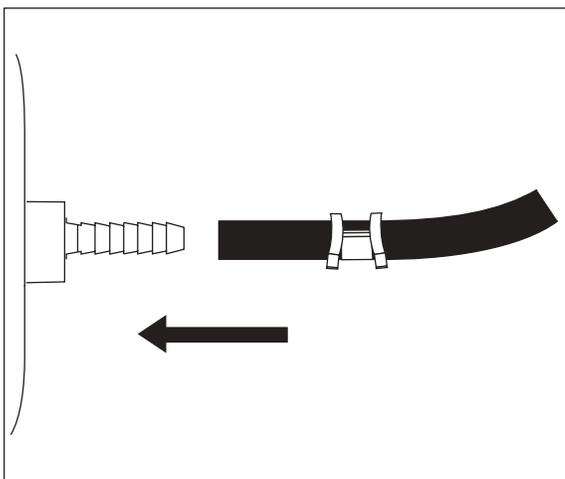

Figure 4
- Push the air line onto the stem, covering all the barbs. With pliers slide the air line clamp upward until it fully covers the barbed section (Figure 4).
- d. Slide air line clamp onto the cut air line. Push the air line onto the stem, covering all the barbed section. With pliers slide the air line clamp forward until it fully covers barbed section (Figure 4).